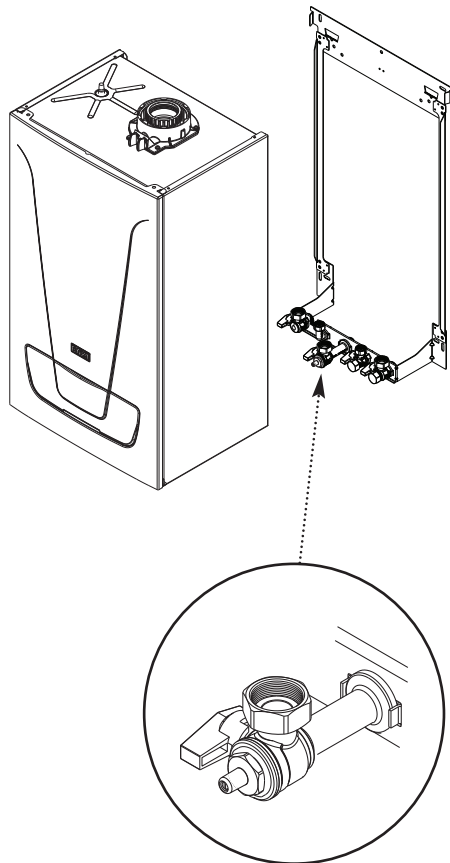

Fig. 3
1. The gas installation should be in accordance with the relevant standards. In GB this is BS 6891 (NG). In IE this is the current edition of I.S. 813 "Domestic Gas Installations".
2. The connection to the appliance is a 22mm copper tail located at the rear of the gas service cock (Fig. 3).